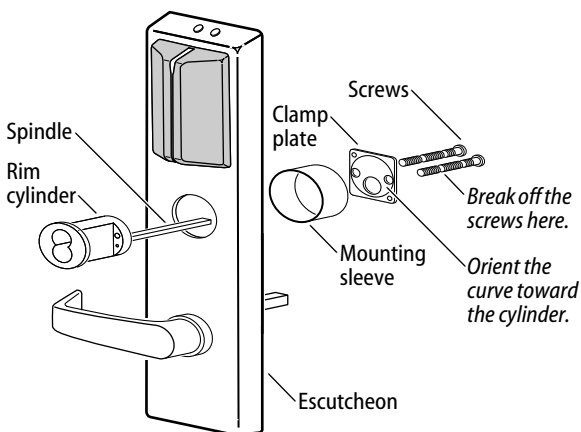

Figure 8 Installing the cylinder for Von Duprin rim and rod exit devices
Break off the mounting screws as shown in Figure 8.
- 4 Orient the cylinder and clamp plate as shown in Figure 8. From the back of the escutcheon, secure the cylinder and mounting sleeve using the clamp plate and mounting screws.